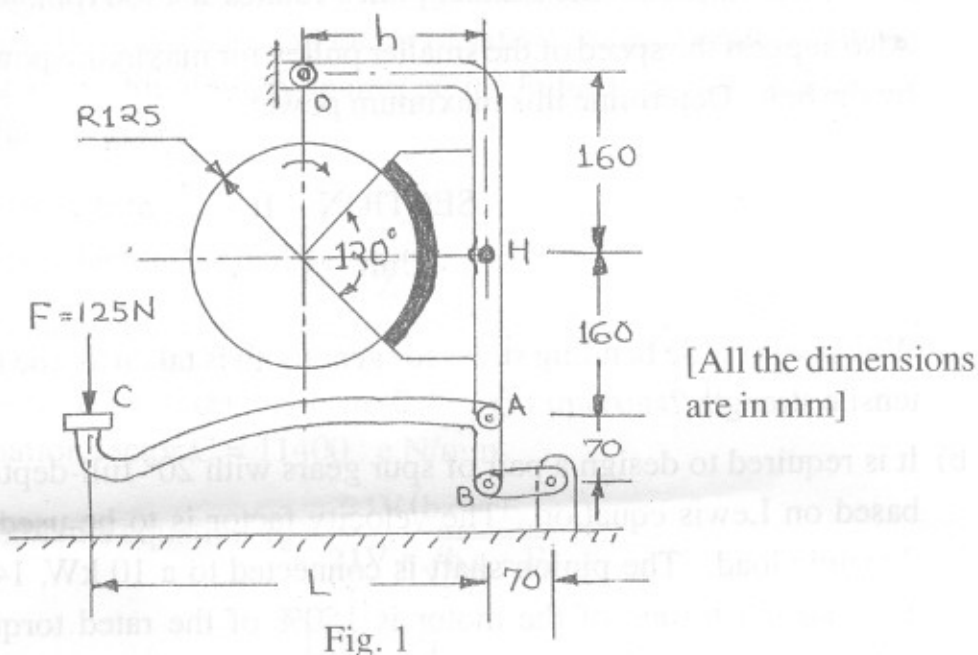

Fig. 1
b) A single block shoe brake is operated through linkages as shown in figure 1. The shoe is pivoted to the arm at H. The dimension 'h' is so selected as to get moment of frictional force about the pivot equal to zero. Actuating force is 125 N. Coefficient of friction and permissible intensity of pressure between the friction lining and brake drum are 0.33 and 0.5 N/mm² respectively. Determine the lever length 'L' and width of the brake shoe parallel to axis of drum if braking torque capacity is 120 N-m.